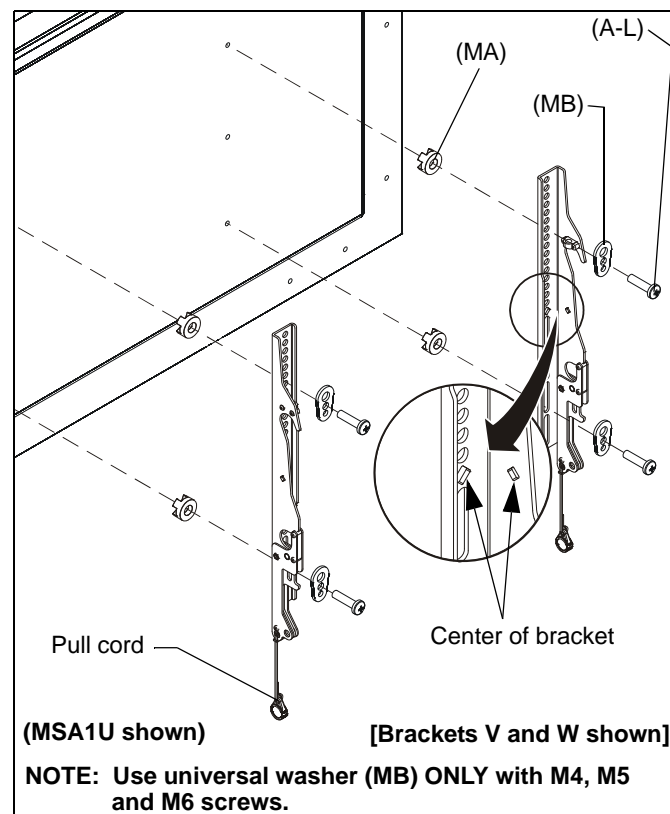
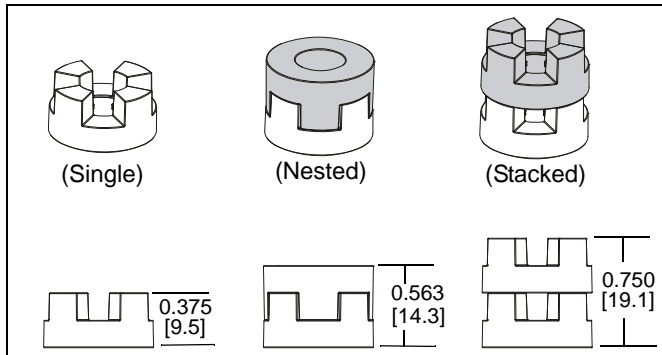

Figure 4
Figure 5
1. Align the center of the bracket (V and W or X and Y) with center of screen. (See Figure 4)
2. Select correct screws, nesting spacers (if necessary) and universal washers (if required) from the hardware bag (A-M) and attach brackets to back of screen. (See Figure 4)
**IMPORTANT ! :** The M8 screws do **NOT** require a washer. Use the universal washer (MB) only with M4, M5 and M6 screws.
**NOTE:** The nesting spacers (MA) may be used separately, or put two together in different configurations to create different size spacers. (See Figure 5)